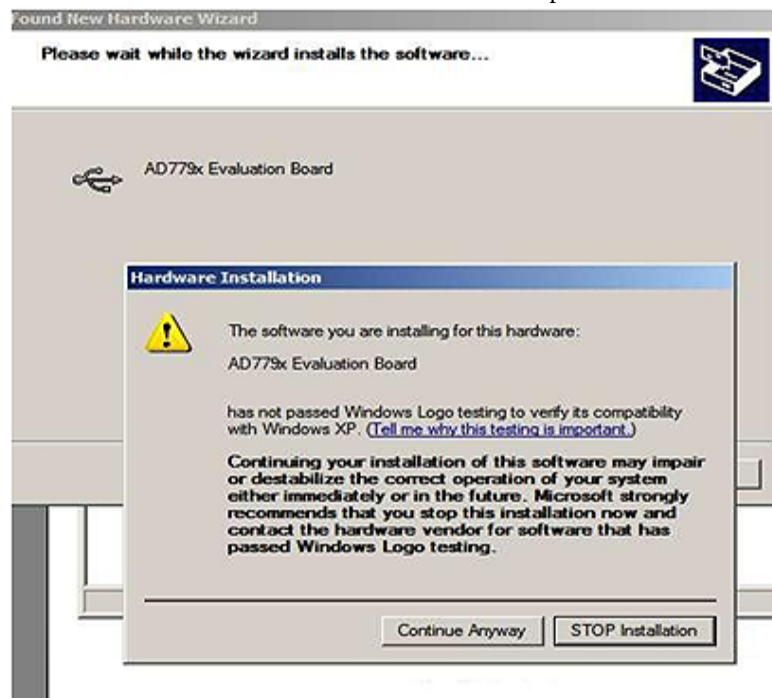

Figure 2. Hardware Installation Window
3. Follow the on-screen instructions that appear. During the installation process, if the **Hardware Installation** window appears as shown in Figure 2, click **Continue Anyway** to complete the installation of the AD7170 evaluation board.